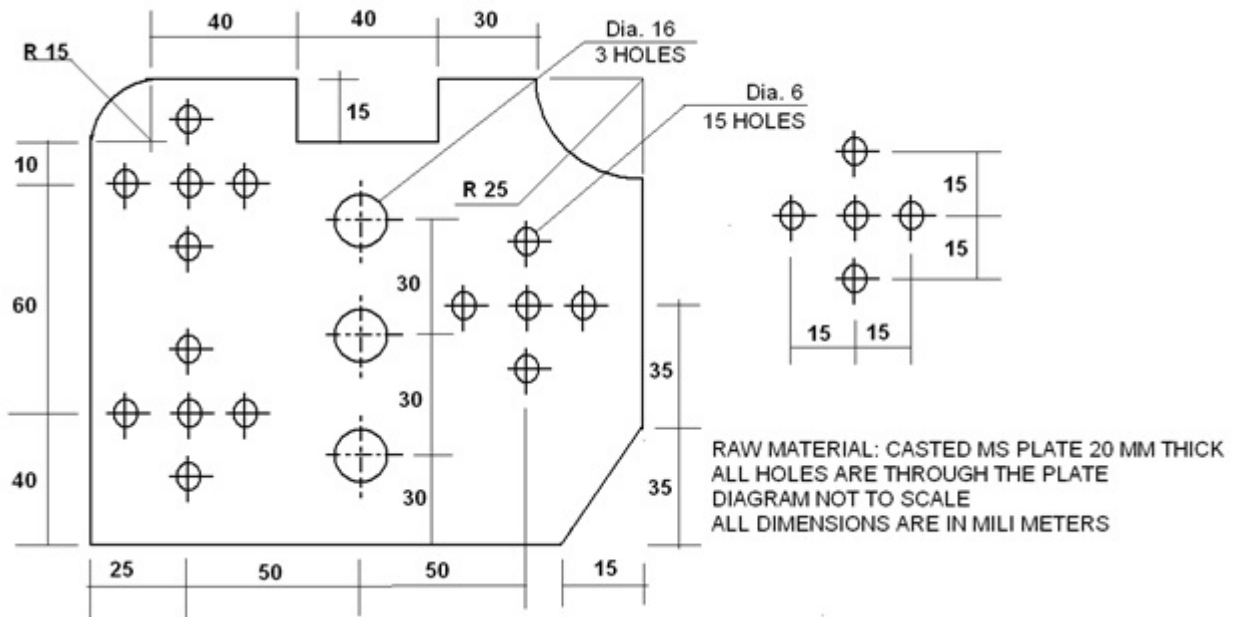

Figure 1
B) Write a milling Part Program for the geometry given in figure 1. **(08)**